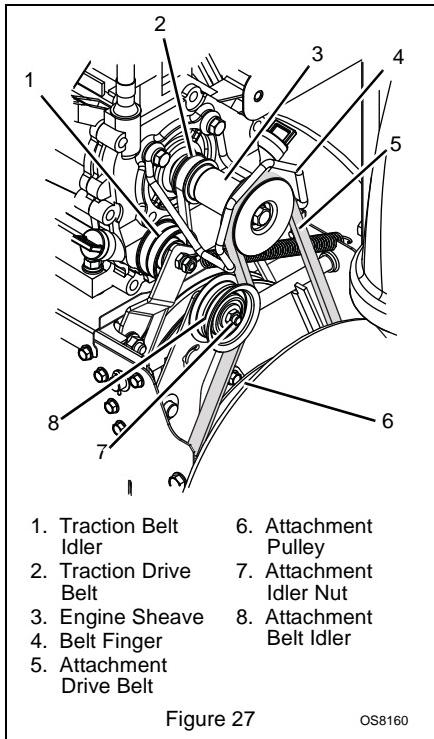

Figure 27
- Remove belt finger by removing cap screws mounting belt finger to engine (Figure 27 or 28).